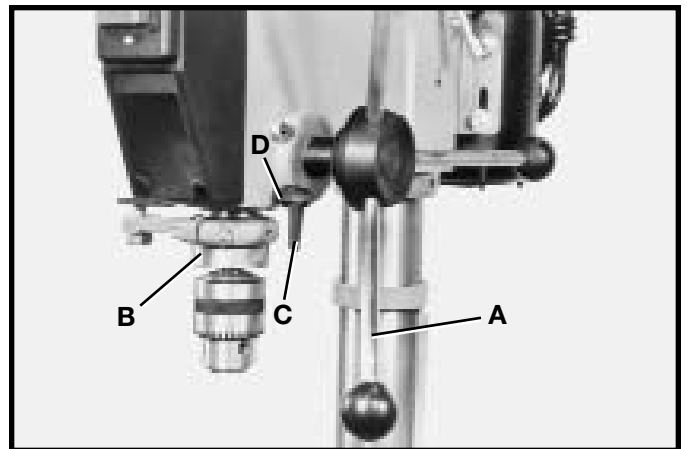

Fig. 29
The spindle is raised and lowered by means of the pinion handles (A) Fig. 29. The quill (B) Fig. 29 can be locked at any desired point in its travel by tightening locking lever (C). **NOTE:** The quill locking lever (C) is spring-loaded and the handle can be repositioned by pulling outward on handle (C) and repositioning it on the hub (D) of the handle.